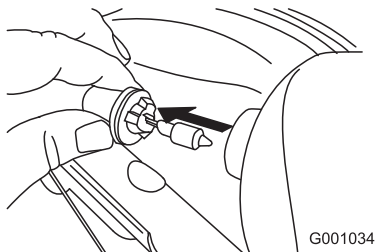

Figure 53
3. Remove the bulb straight out from the back of the headlight (Figure 53).